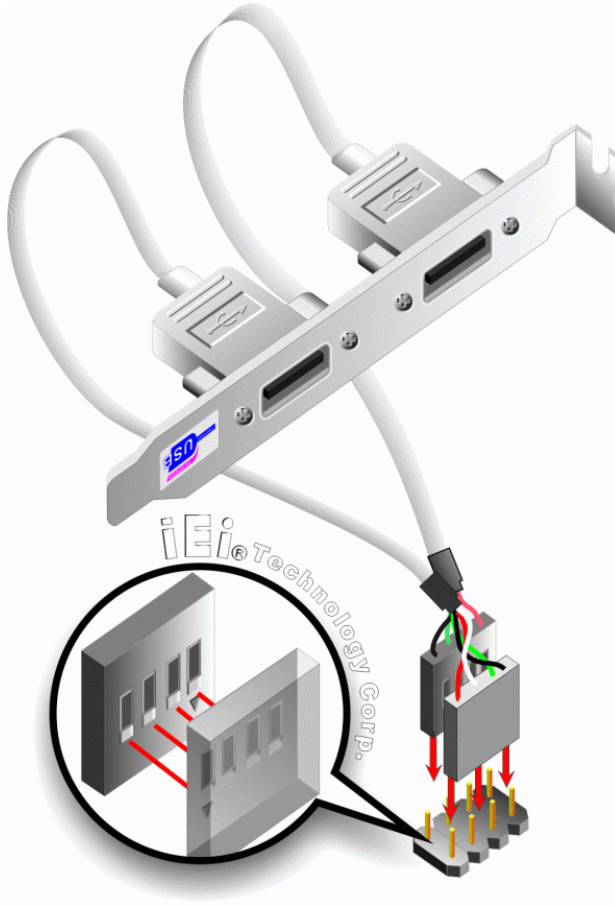

Figure 5-14: Dual USB Cable Connection
Step 3: Insert the cable connectors Once the cable connectors are properly aligned with the USB connectors on the PICOe-945GSE, connect the cable connectors to the on-board connectors. See **Figure 5-14**.